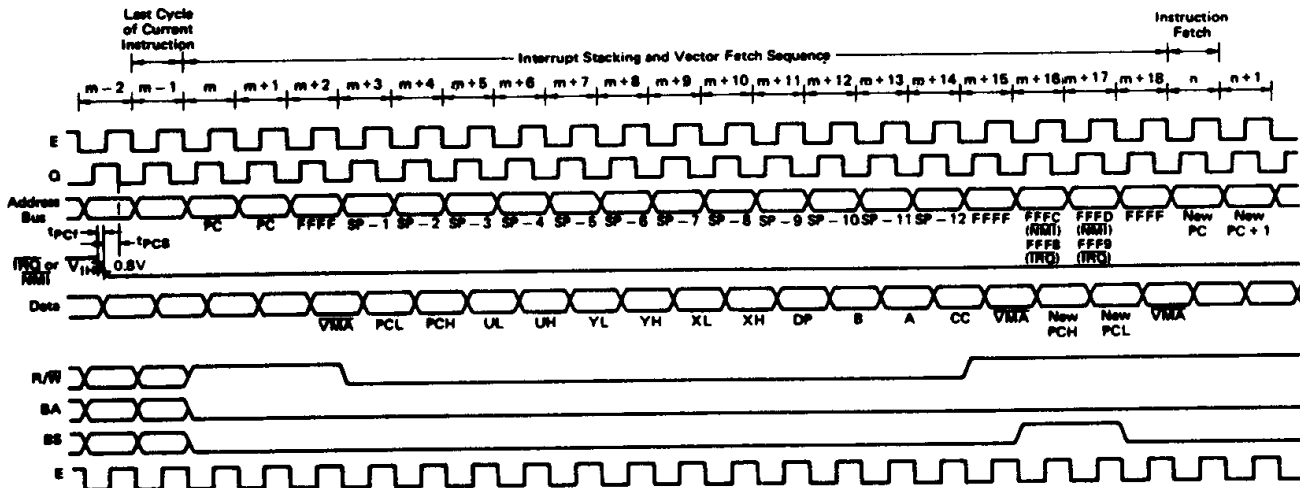

Figure 9 IRQ and NMI Interrupt Timing
hardware stack. After reset, an NMI will not be recognized until the first program load of the Hardware Stack Pointer (S). The pulse width of NMI "Low" must be at least one E cycle. If the NMI input does not meet the minimum set up with respect to Q, the interrupt will not be recognized until the next cycle. See Fig. 9.
A “Low” level input on this pin will initiate an interrupt Request sequence provided the mask bit (I) in the CC is clear. Since  $\overline{\text{IRQ}}$  stacks the entire machine state it provides a slower response to interrupts than  $\overline{\text{FIRQ}}$ .  $\overline{\text{IRQ}}$  also has a lower priority than  $\overline{\text{FIRQ}}$ . Again, the interrupt service routine should clear the source of the interrupt before doing an RTI. See Fig. 9.